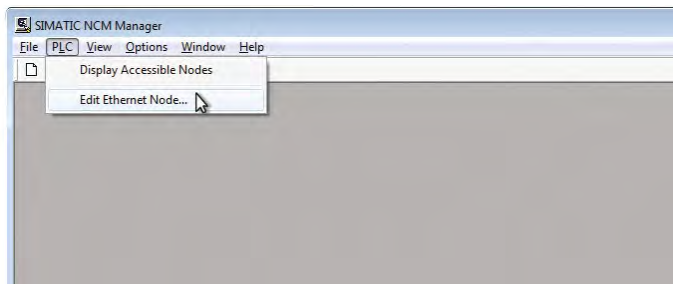

Fig. 46: Select the MTS R-Series Profinet sensor (step 1) (source: Siemens)
1. Select the MTS R-Series Profinet IO RT sensor as described below (Fig. 46):